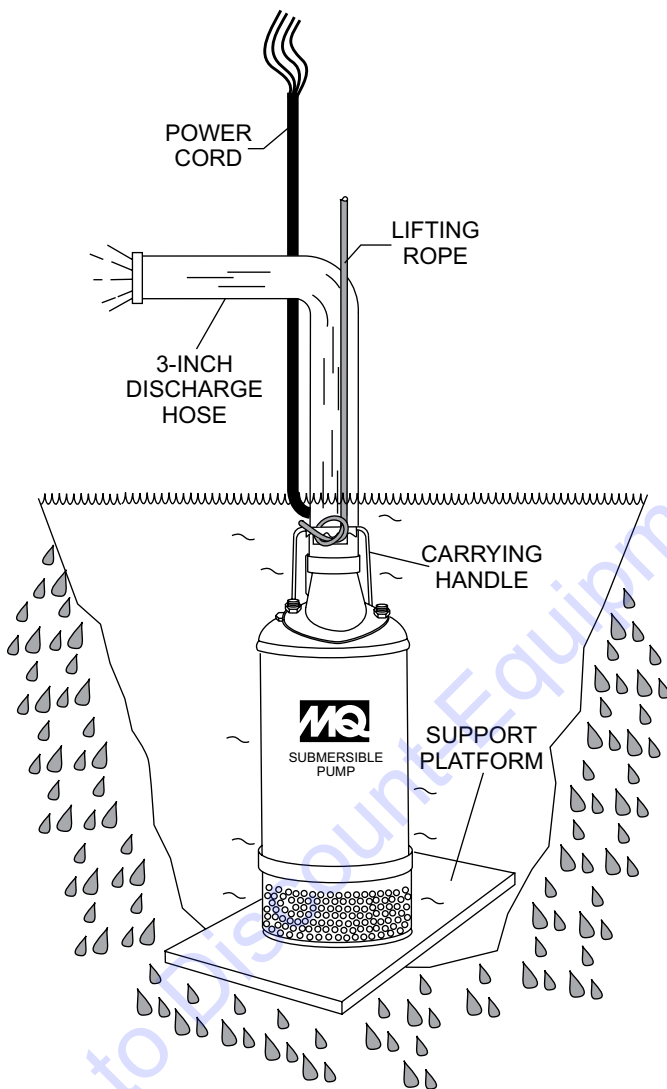

Figure 18. Submersible Pump Upright Position (Correct)
1. Attach a suitable lifting cable (rope) to the carrying handle (Figure 18) on the pump and lower the pump into place. For applications where there is an excessive amount of mud, grit or silt, the use of a support platform is desirable. When pumping water from swimming pool type applications where there is little or no debris, the support platform is not required.